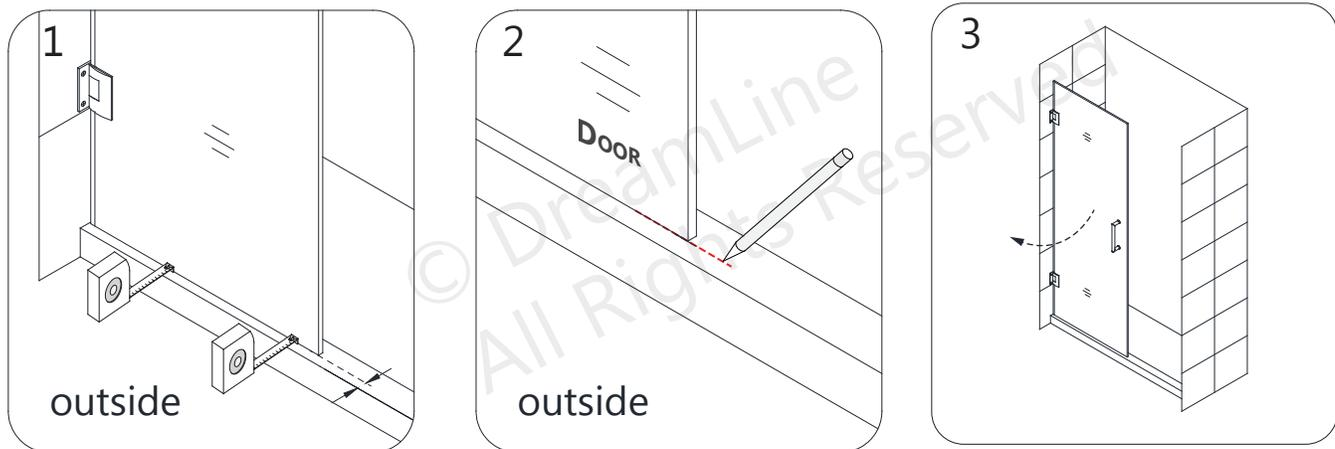

Fig 1
1. Align the **Door** so that it is perpendicular to the wall and parallel with the outside of the threshold. Mark a line on the threshold for reference. Open the door to allow space for the panel installation. **(Fig 1)**